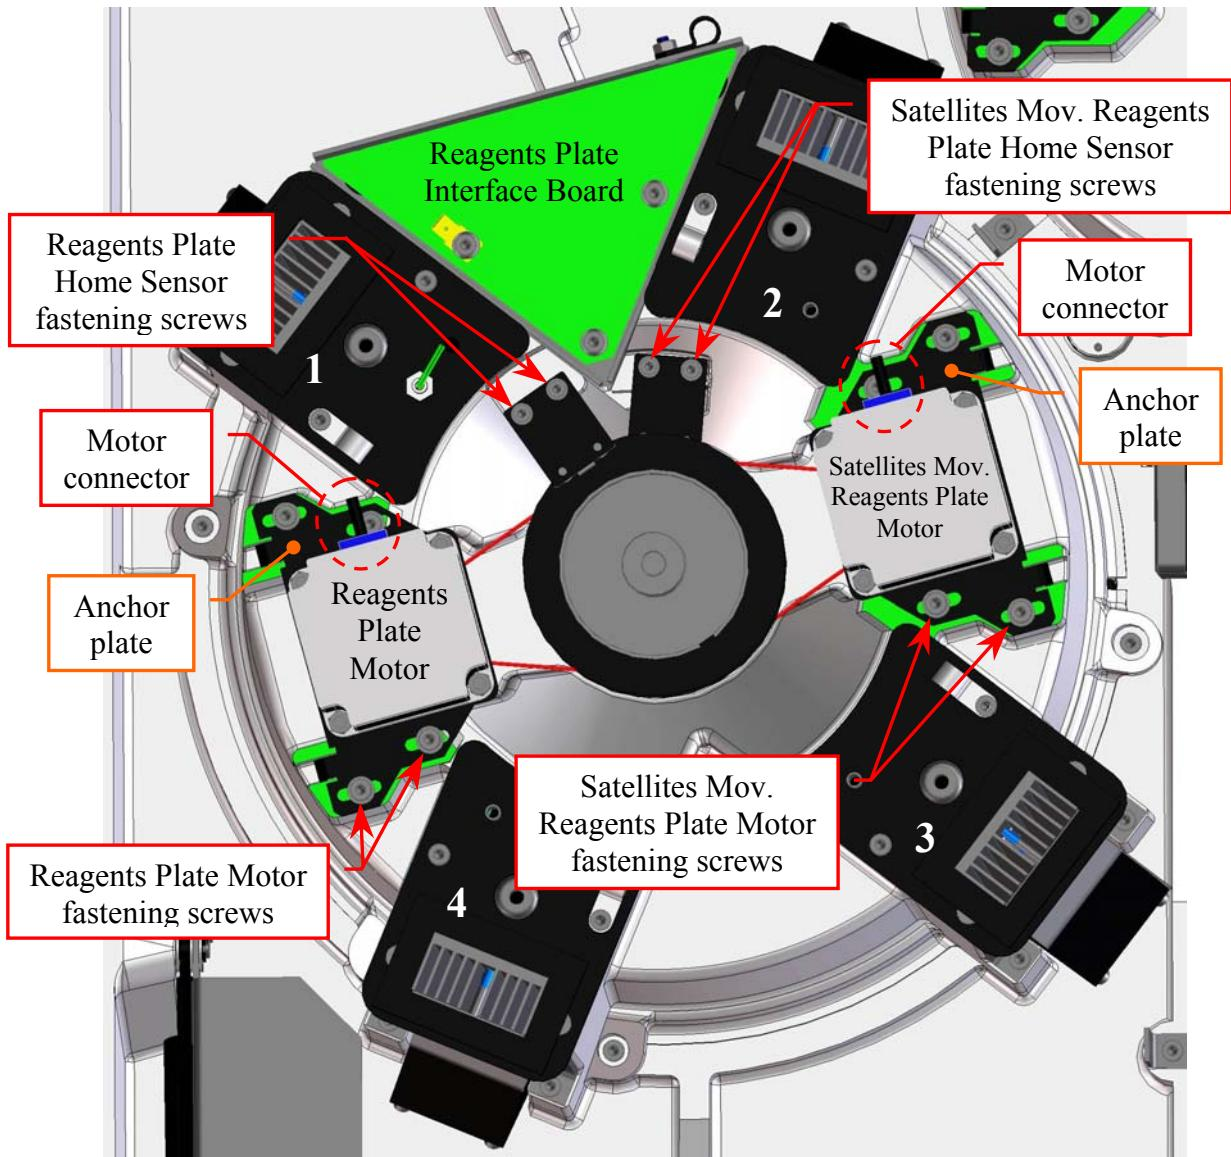

Fig. 82 – Reagents Plate Motor and Satellites Mov. Reagents Plate Motor
2. Unscrew the four fastening screws of the Reagents Plate Motor (**Fig. 82**), push the motor toward the primary pulley in order to obtain the loosening of the belt, then screw one motor fastening screw.
3. Unscrew the four fastening screws of the Satellites Mov. Reagents Plate Motor (**Fig. 82**), push the motor toward the secondary pulley in order to obtain the loosening of the belt, then screw one motor fastening screw.
4. Unscrew the two fastening screws of the Reagents Plate Home Sensor (**Fig. 82**) and take out the sensor from its housing on the Reagents Plate Assy.
5. Unscrew the two fastening screws of the Satellites Mov. Reagents Plate Home Sensor (**Fig. 82**) and take out the sensor from its housing on the Reagents Plate Assy.
3. Unscrew the four fastening screws of the Reagents Plate Motor (**Fig. 82**).
10. Position the Reagents Plate Motor on its housing with the side of the motor connector oriented towards the Reagents Plate Interface Board (**Fig. 82**) and with the anchor plate springs placed in the relative slits, then tighten slightly its four fastening screws.
13. Tighten the four fastening screws of the Reagents Plate Motor (**Fig. 82**).
3. Unscrew the four fastening screws of the Satellites Mov. Reagents Plate Motor (**Fig. 82**).
10. Position the Satellites Mov. Reagents Plate Motor on its housing with the side of the motor connector oriented towards the Reagents Plate Interface Board (**Fig. 82**) and with the anchor plate springs placed in the relative slits, then tighten slightly its four fastening screws.
13. Tighten the four fastening screws of the Satellites Mov. Reagents Plate Motor (**Fig. 82**).
7. Position the new home sensor on its housing of the Reagents Plate Assy - as showed in **Fig. 82** - in order to obtain that the primary pulley disk is centered with respect to the internal sides of the home sensor.
8. Screw the two fastening screws of the Reagents Plate Home Sensor (**Fig. 82**).
4. Unscrew the two fastening screws of the Satellites Mov. Reagents Plate Home Sensor (**Fig. 82**) and take out the sensor from its housing on the Reagents Plate Assy.
7. Position the new home sensor on its housing of the Reagents Plate Assy - as showed in **Fig. 82** - in order to obtain that the secondary pulley disk is centered with respect to the internal sides of the home sensor.
8. Screw the two fastening screws of the Satellites Mov. Reagents Plate Home Sensor (**Fig. 82**).
2. Loosen the four fastening screws of the Reagents Plate Motor and remove the Reagents Plate Belt from the pulley of the Reagents Plate Motor (**Fig. 82**).
3. Unscrew the two fastening screws of the Reagents Plate Home Sensor (**Fig. 82**) and take out the sensor from its housing on the Reagents Plate Assy.
4. Remove the Reagents Plate Belt from the primary pulley (**Fig. 82**).
8. Tighten the four fastening screws of the Reagents Plate Motor (**Fig. 82**).
9. Position the Reagents Plate Home Sensor on its housing of the Reagents Plate Assy - as showed in **Fig. 82** - in order to obtain that the primary pulley disk is centered with respect to the internal sides of the home sensor.
10. Screw the two fastening screws of the Reagents Plate Home Sensor (**Fig. 82**).
2. Loosen the four fastening screws of the Satellites Mov. Reagents Plate Motor and remove the Satellites Mov. Reagents Plate Belt from the pulley of the Satellites Mov. Reagents Plate Motor (**Fig. 82**).
3. Unscrew the two fastening screws of the Satellites Mov. Reagents Plate Home Sensor (**Fig. 82**) and take out the sensor from its housing on the Reagents Plate Assy.
4. Remove the Satellites Mov. Reagents Plate Belt from the secondary pulley (**Fig. 82**).